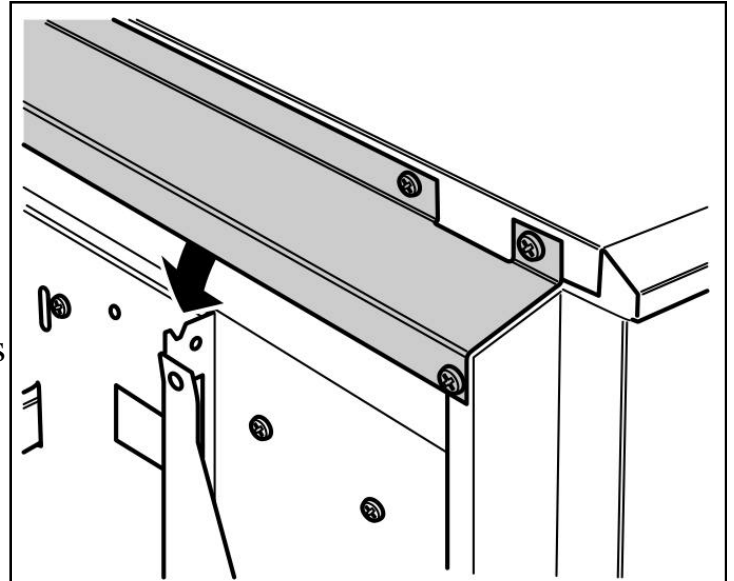

Figure 13. Fascia top location
Make sure that the top rear of the fascia locates fully into the 'U' shaped notch of the engine back panel (See figure 13).
- 11.1.4* Replace in the reverse order. Make sure that the top rear of the of the fascia locates fully into the ‘U’ shaped notch of the engine back panel (See figure13). Make sure that the radiants are not dislodged when refitting the fascia.